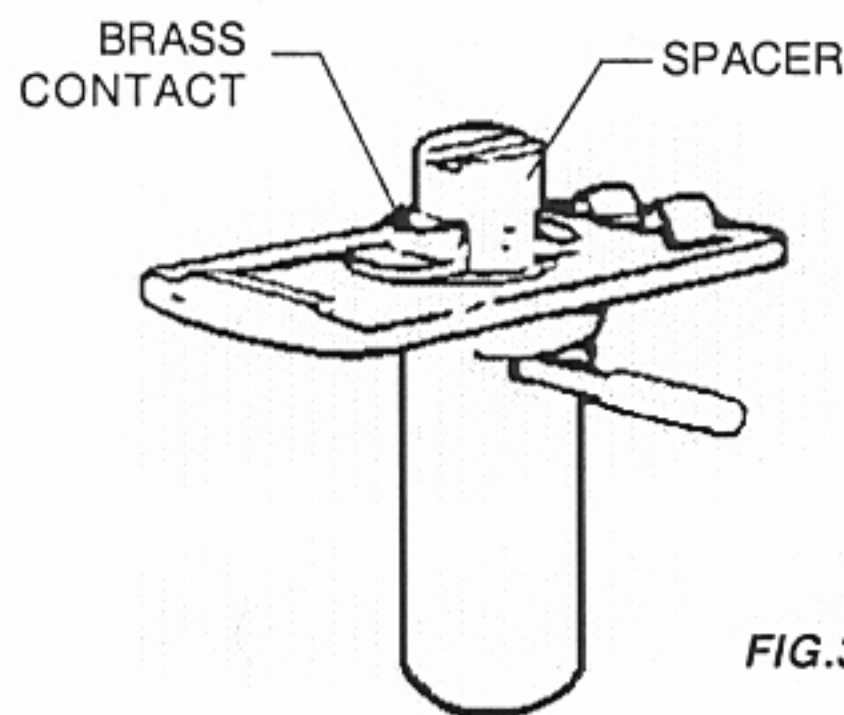

FIG.3
- 1a. Slide the spacer into the brass contact until it clicks into place. (Fig.3)